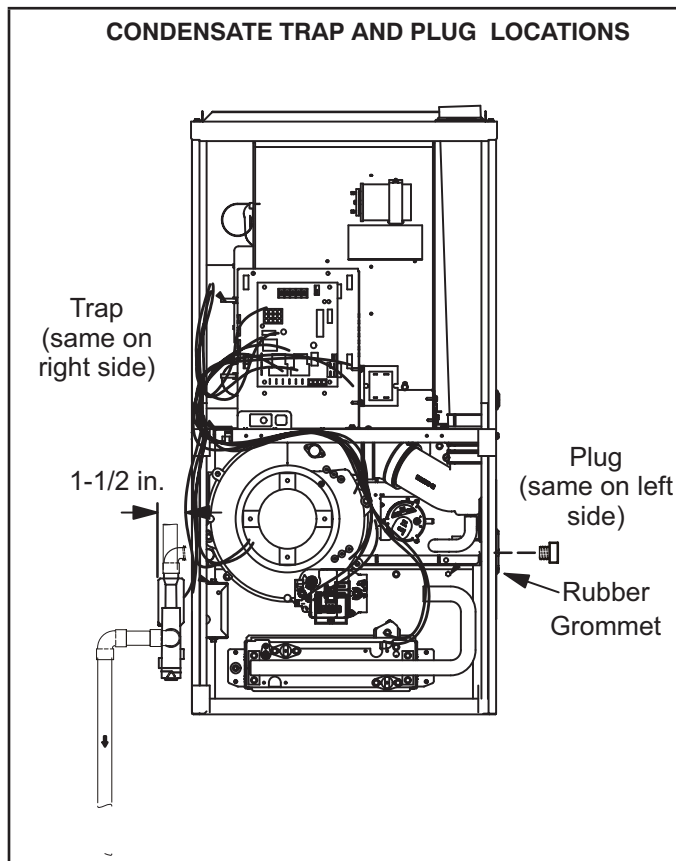

FIGURE 43
This unit is designed for either right- or left-side exit of condensate piping. Refer to figures 43 and 45 for condensate trap locations.
- 2 - Use a large flat head screw driver or a 1/2" drive socket extension and remove plug (figure 43) from the cold end header box at the appropriate location on the side of the unit. Install provided 3/4 NPT street elbow fitting into cold end header box. Use Teflon tape or appropriate pipe dope.